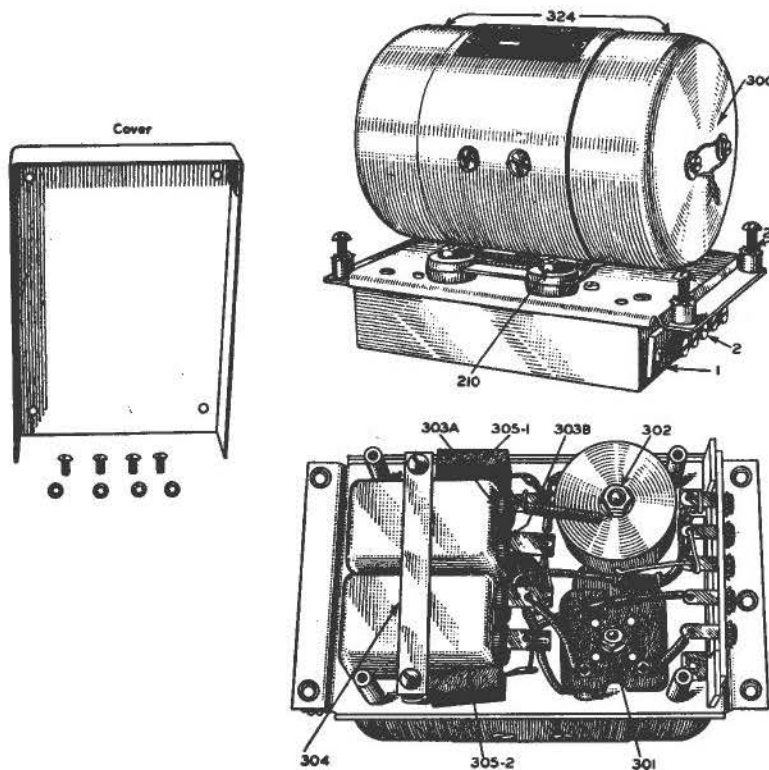

Figure 102. Dynamotor DM 28H for Liaison Receiver
3. Loosen the five connector screws (2), Figure 102, on the dynamotor terminal strip (1), Figure 102, and withdraw the spade terminals from beneath them.
4. Loosen the four captive screws (211), Figure 102, which hold the dynamotor unit to the chassis.
The filter portion of the dynamotor unit is accessible by removing the cover at the bottom. See Figures 102 and 103.
This dynamotor requires lubricating after 1,000 hours or approximately 6 months of ordinary service and should be lubricated **only** with Air Corps Grade 375 grease. The directions for lubrication are stamped on the inside of the end-bell dust covers (324), Figure 102. Access to the bearings of the dynamotor is obtained by first removing the dust covers after cutting the safety wires and removing the retaining screws (300), Figure 102, then unscrewing the bearing end plates.